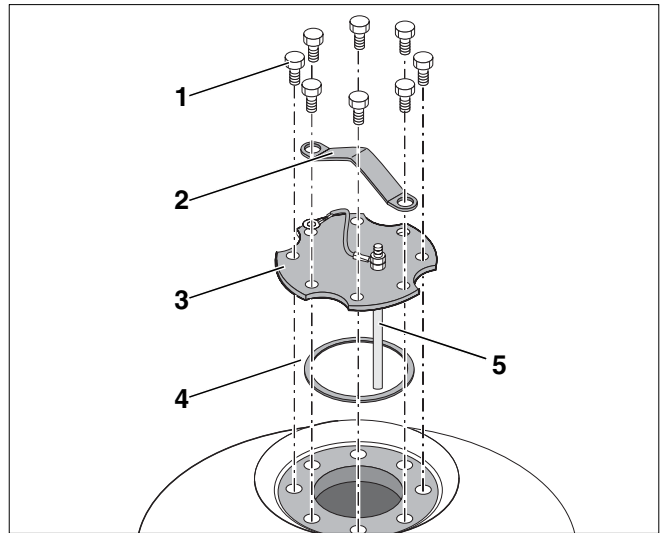

Fig. 16 Removing the access cover
- Remove hexagon bolts (Fig. 16, **Item 1**) from the manual access cover (Fig. 16, **Item 3**).
- Remove the access cover, transport handle (Fig. 16, **Item 2**) and access cover gasket (Fig. 16, **Item 4**) from the DHW tank.